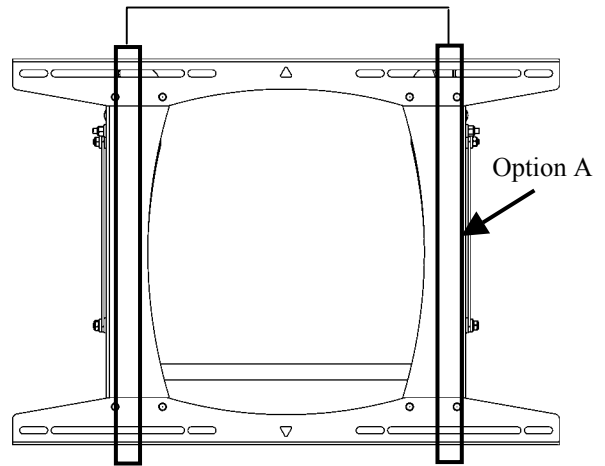

Figure 5. Mounting Holes – 16" Apart on Center (Option A)
1. Holding the MSP-LT against the wall, select the pair of mounting holes that best suits your situation (see Figure 5).
- **Option A.** Install four lag bolts and four washers (two top and two bottom) into the mounting holes, centering the MSP-LT on dual wood studs 16" apart on center as shown in Figure 5.